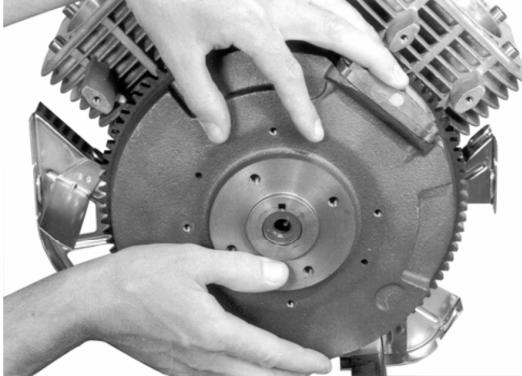

Figure 11-28. Carefully Align Keyway to Key.
2. Install the flywheel onto the crankshaft, being careful not to shift the woodruff key. See Figure 11-28.